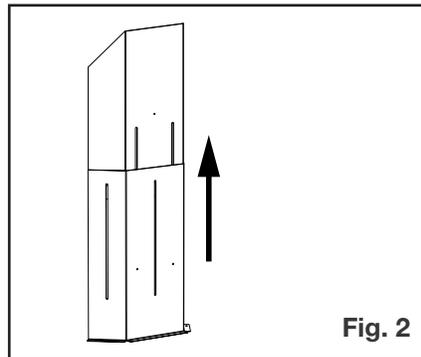

Fig. 2
2. Adjust vent shield to a minimum of 15" (Fig. 2).